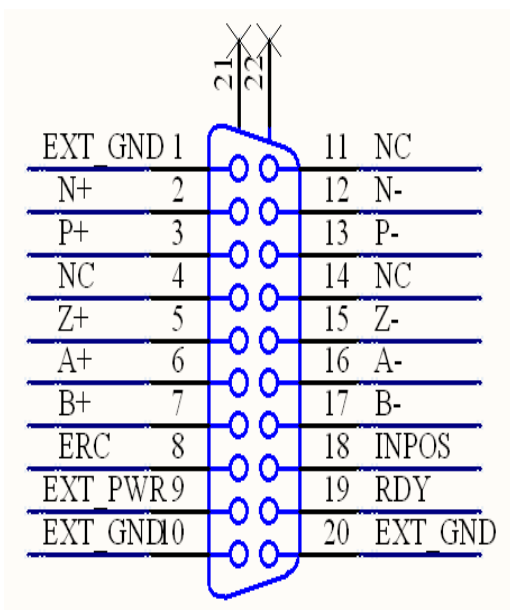

Fig B2-5 Pin definition for CN-XA, CN-YA
■ CN-XA & CN-YA (Fig B2-5 connector for each AXIS )
The connectors CN-XA and CN-YA are 20-pin connectors that enable you to connect to the CNA connector of Mitsubishi motor drivers. Fig.B2-5 shows the pin assignment for the 20-pin connector on the DN-8237-MB, and the Table B2-5 shows its I/O connector signal description.